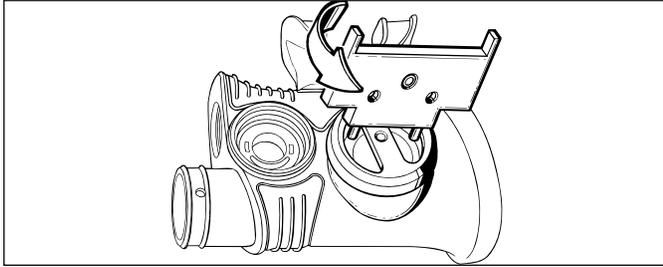

Figure 8
1.1.26 Mate the pins of the Air Source Multi-Tool into the oral valve exhaust cap(41). (See Fig. 8.) While holding the tool securely engaged, turn the cap counter-clockwise to loosen and remove. Closely inspect the cap for any signs of damage, especially around the threads. If found, discard it and do not reuse.